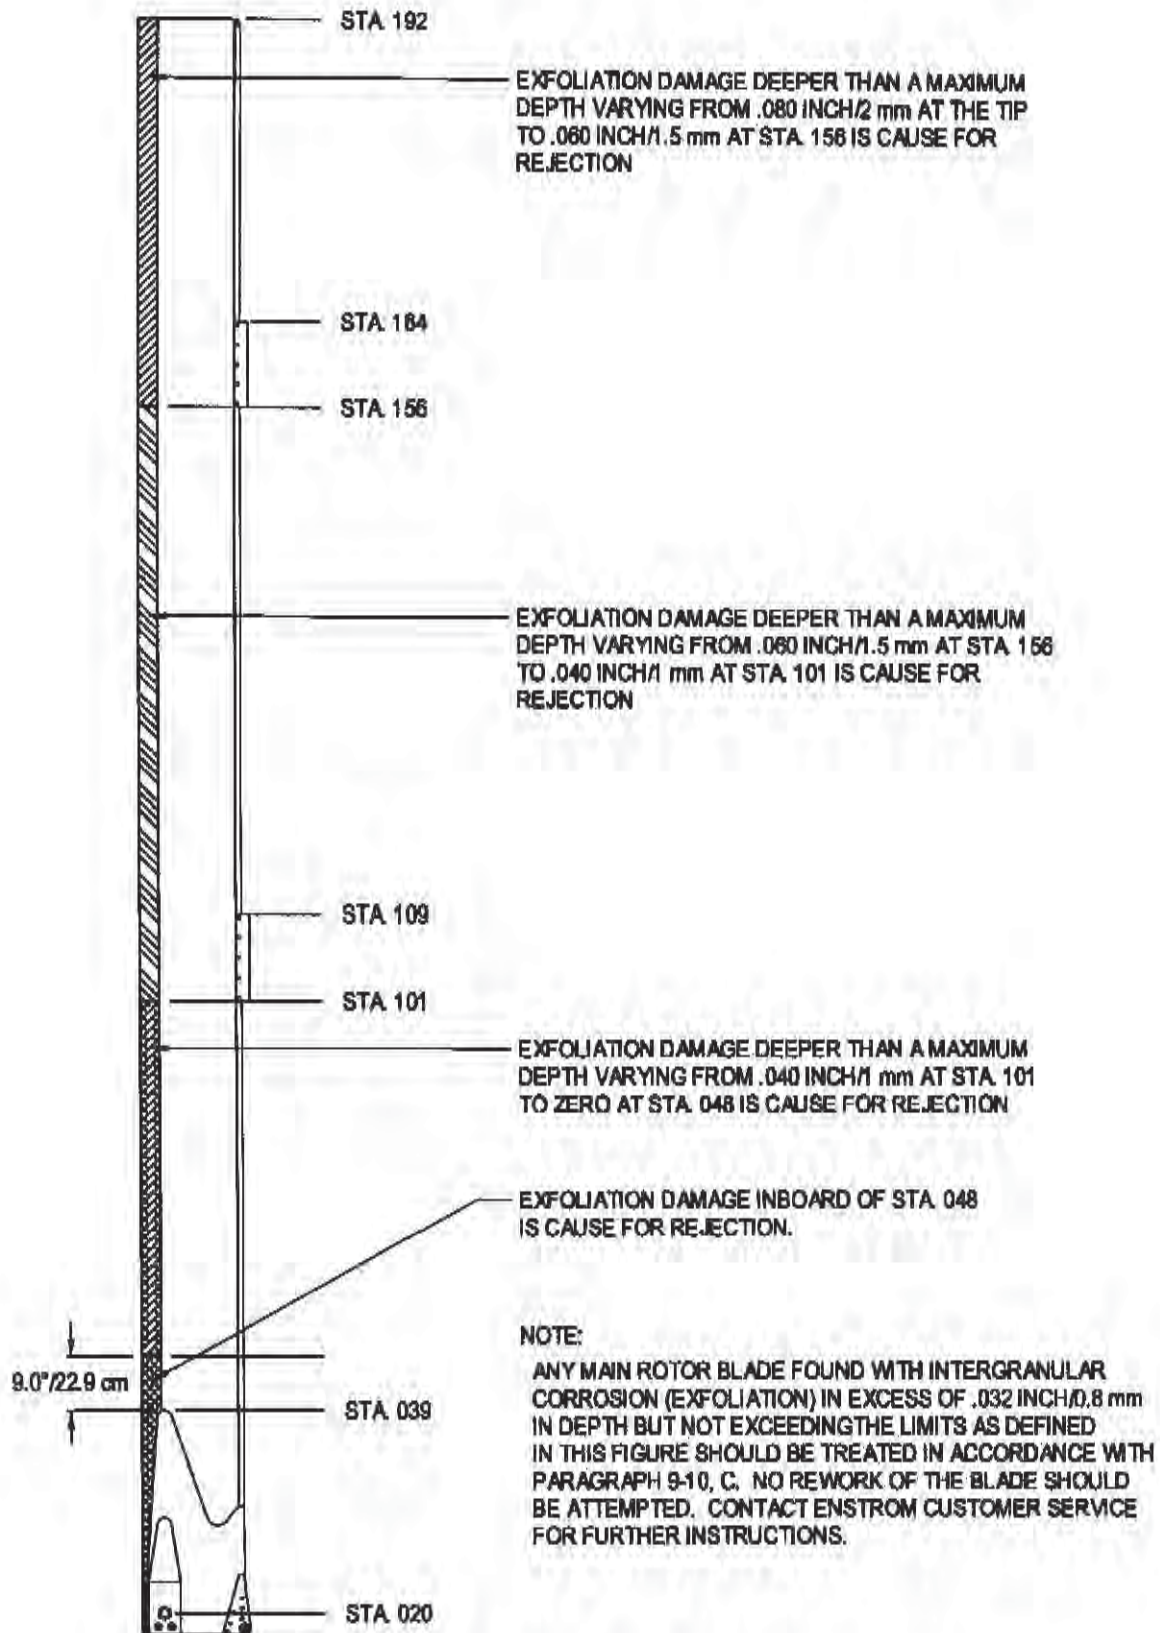

Figure 9-19. Main Rotor Blade Spar Corrosion Limits
B. Inspect the main rotor blade spar (especially on blades that have erosion of the paint finish) for slivering or flaking of the exposed spar surface, and for a grainy surface appearance (Figure 9-19).
- (4) Treat the blade as required with a chemical conversion coating complying with MIL-DTL-5541/MIL-DTL-81706 or equivalent.
- (5) Refinish the area either using the small area repair in paragraph 9-10, A, or if the entire blade needs refinishing, use paragraph 9-11.
C. Repair blade spars with flaking or slivering exceeding .032"/0.8 mm in depth but not the limits in Figure 9-19 as follows:
- (1) Apply corrosion inhibitor to the affected area daily.
- (2) Contact the Enstrom Customer Service Department for further instructions.
Main rotor blades with intergranular spar corrosion (exfoliation) exceeding the limits of Figure 9-19 must be rejected as unairworthy.